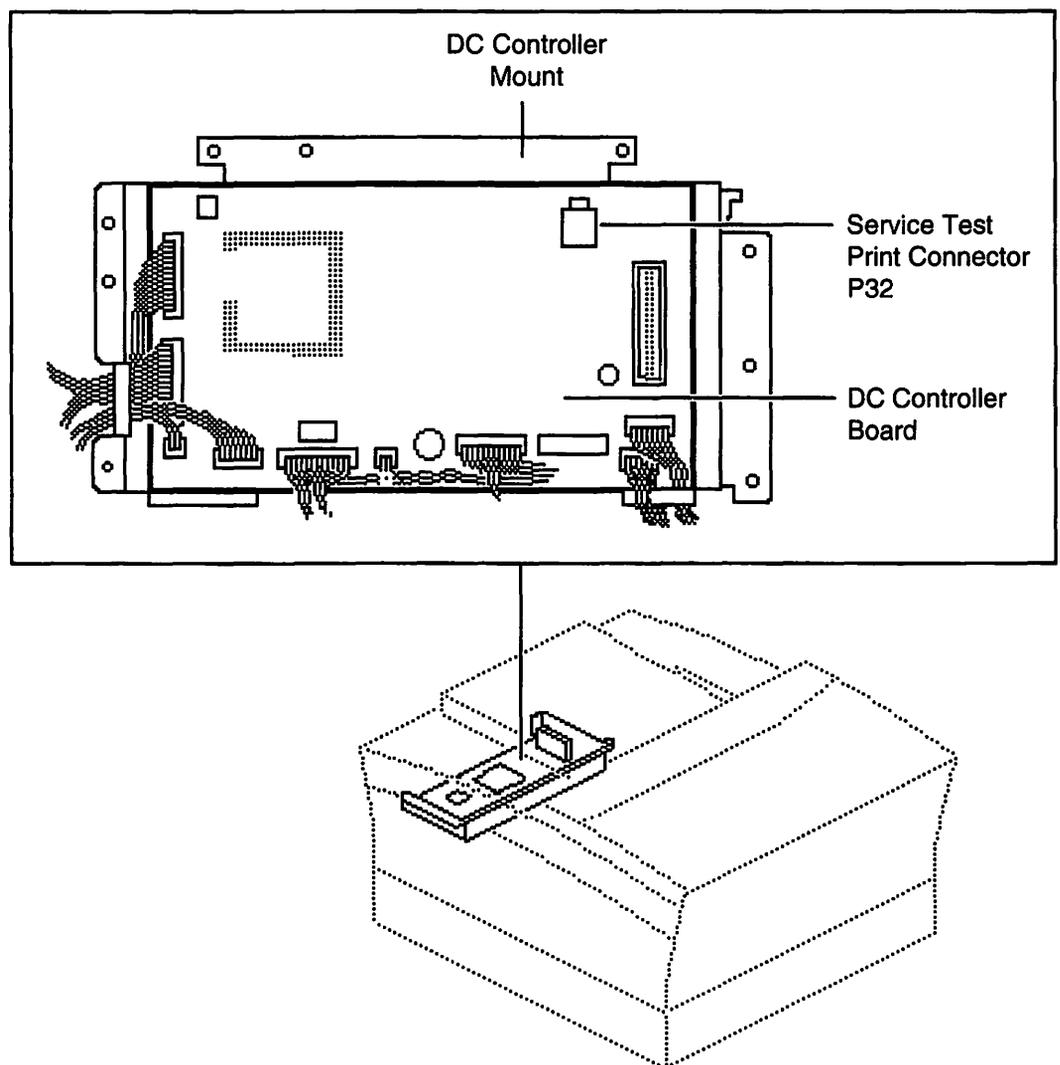

Figure 1-6
- The DC controller board (see Figure 1-6) is the interface between the I/O controller board and the print engine. The I/O controller shield and mount must be removed to see the DC controller board and mount. The DC controller board controls the printer, distributes DC power, and prints the service test page when connector P32 pins 1 and 2 are jumpered. An access hole in the I/O controller mount directly in front of connector P32 allows the pins to be jumpered without removing the I/O controller shield or mount. The DC controller board is mounted to the DC controller mount. For a detailed list of the cable connectors, refer to the **Circuit Board Diagrams** section of the "Troubleshooting" chapter in the LaserWriter Select manual on *Apple Service Source*.